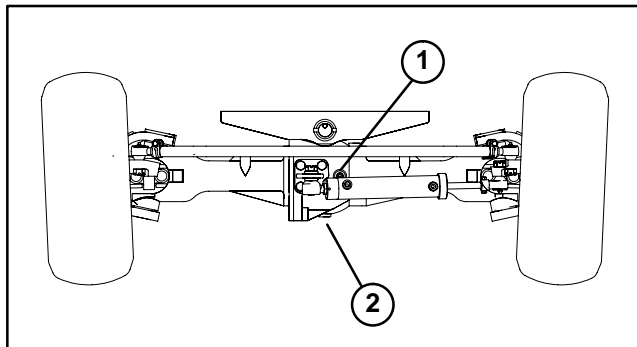

Figure 4
2. Remove check plug from axle and make sure lubricant is up to bottom of hole. If level is low, add enough lubricant to bring the level up to the bottom of the check hole (Fig. 4).